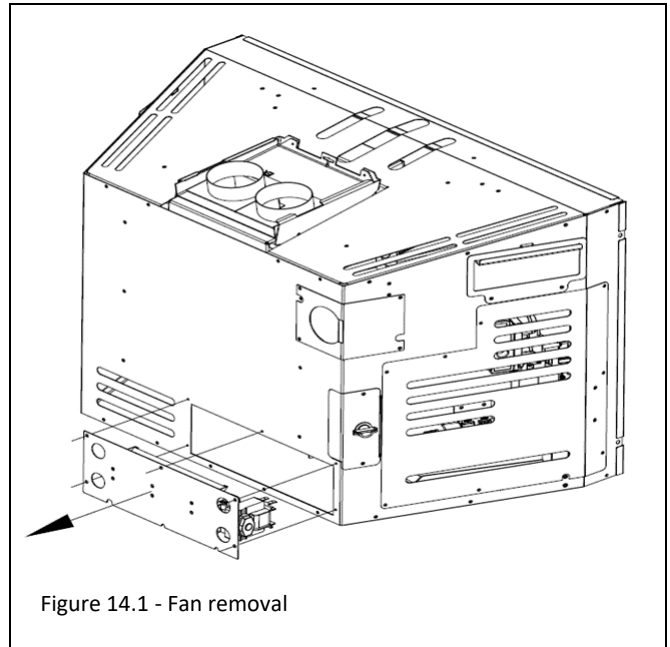

Figure 14.1 - Fan removal
5. Remove the (6) screws securing the fan plate from the fireplace. See Figure 14.1 Pull the fan plate towards you and disconnect the wiring. Connect wiring to the new replacement fan kit and install in reverse order.